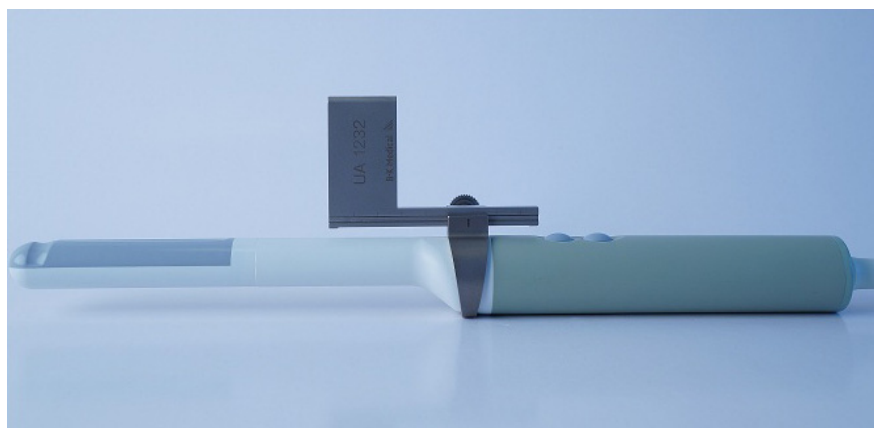

Figure 5. E14CL4b with puncture attachment UAI232.
- 2** The puncture attachment should be correctly positioned (Fig. 5) before the lock screw is tightened.